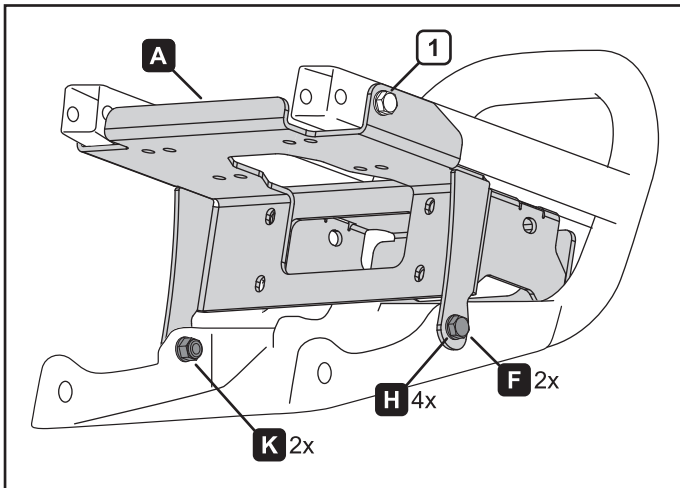

Figure 2.
2. Loosely install the winch mount (A) with bolts (F), washers (H) and nuts (K). See figure 2.